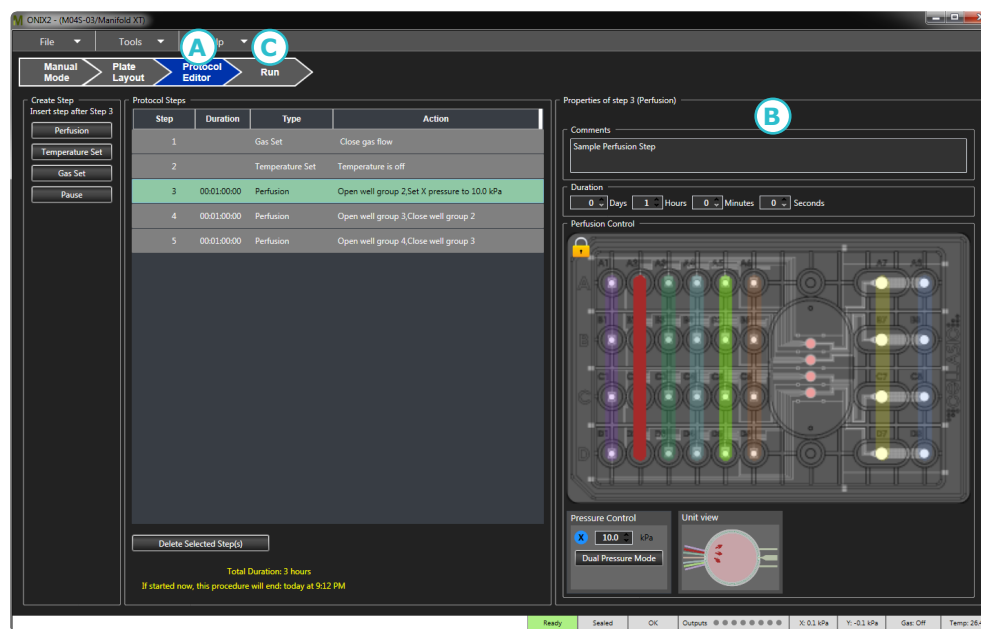

Figure 31. Protocol editor
1. Click **Run** (C in Figure 31) to go to the Run tab.